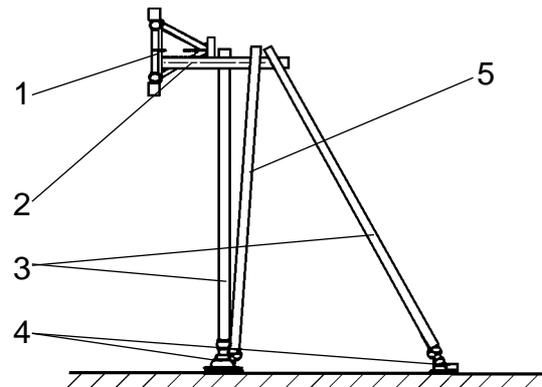

Fig.6-14 Anchoring to the facade
4. Attach the mast adapter (fig. 6-14, 2) to the mast (fig. 6-14, 1).
7. Fit the wall plates (fig. 6-14, 4) to the facade. For assembly to the facade, first drill the holes required for the wall plates.
8. Attach the horizontal anchor pipes (fig. 6-14, 3) between the mast adapters and the wall plates.
11. Attach the anchor pipes (fig.6-14, 5) between the horizontal anchor pipes (afb.6-14, 3).